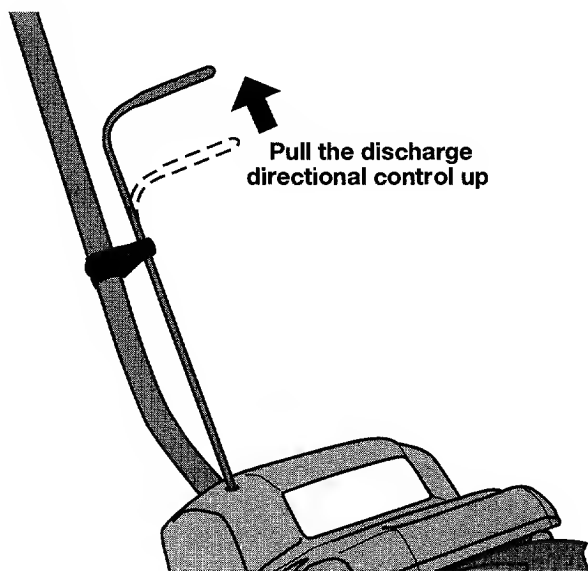

Fig. 4
1. Firmly grasp handle of discharge directional control and pull up. This releases the rod, which is spring-loaded, from the current discharge direction slot and allows free movement (Fig. 4).